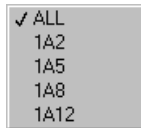

Figure 6-18. Events Query Module List
- **Module** — Select the module **AID** to use or select **ALL** to display event information for all modules: Click on the **Module** list to display the list (Figure 6-18). Click on an **AID** value in the list to select the value. For a description of the AID format, see the note on page 59.